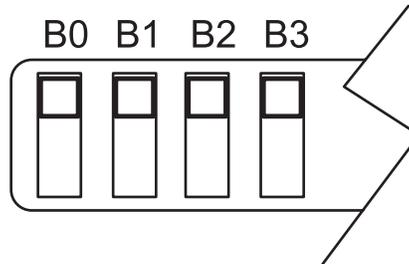

Figure 4. B0 through B3 DIP Switches
6. If using BACnet MS/TP, Set B bank of DIP switches to set the baud rate on ProtoNode RER (FPC-N34). (See **Figure 4 & Table D**)